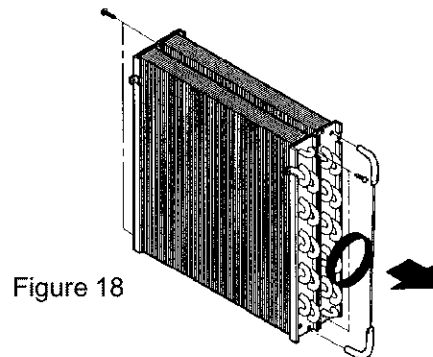

Figure 18
7. Unbrazed the capillary tube at both condenser and evaporator. (See Figure 18.)
8. Remove the four screws between the condenser and evaporator. (See Figure 18.)